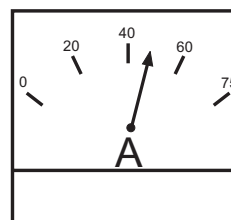

Figure 33. Ammeter (Load)
17. Observe the generator's ammeter (Figure 33) and verify it reads the anticipated amount of current with respect to the load. The ammeter will only display a current reading if the load is in use.